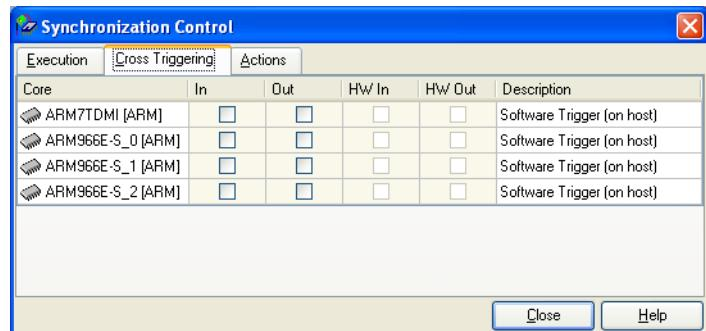

Figure 7-9 Cross Triggering tab in the Synchronization Control window
- Click the Cross Triggering tab. A row of cross-triggering controls is available for each currently connected processor. Figure 7-9 shows an example: